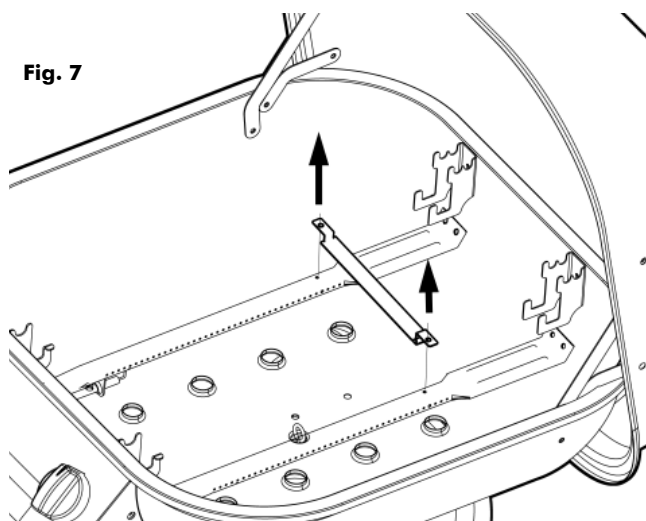

Fig. 7
3. To remove each Main Burner, first remove the Crossover held in place between the burners by 2 screws. (Fig. 7)